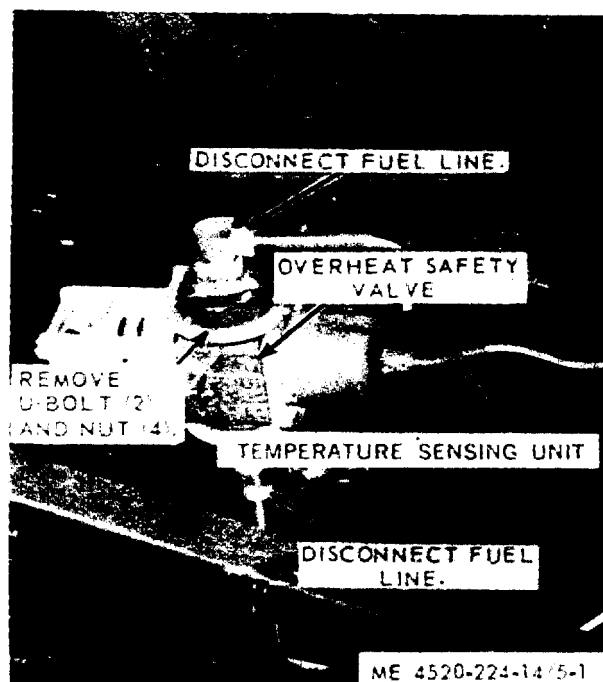

Figure 5-1. Overheat control, removal and installation.
5-7 Overheat Safety Valve. (fig. 5-1)
(1) Remove the cabinet, paragraph 4.34.
(2) Refer to Figure 5-1 and remove the overheat safety valve.
(1) Refer to Figure 5-1 and install the overheat safety valve.
(2) Install the cabinet.